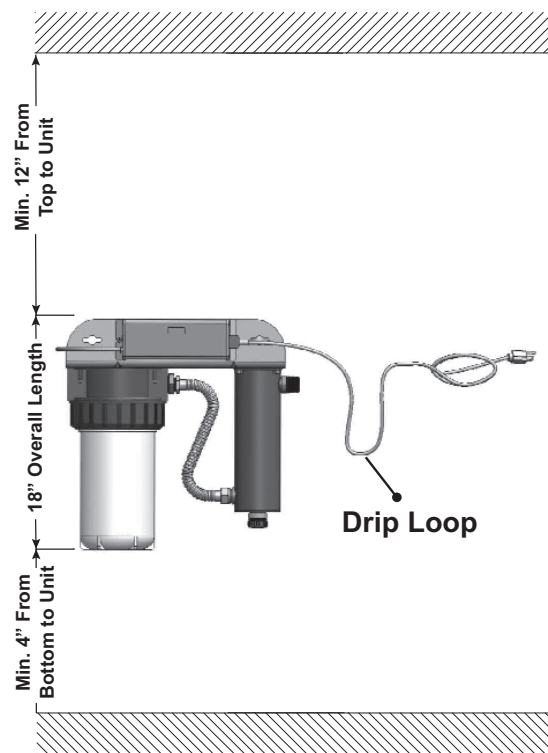

Figure 3 Installation
The UV system is designed to be installed at point-of-entry. Drip loops in all cordage connected to the controller is highly recommended. Refer to Figure 3.
mounting location, enough space must be left to allow for the removal of the UV lamp sleeve, as well as enough space to change out the filter cartridges. See Figure 3 for typical clearance dimensions.
4. Make sure you allow for a "drip-loop" on the power cord to prevent any water from potentially entering the controller. Refer to Figure 3.